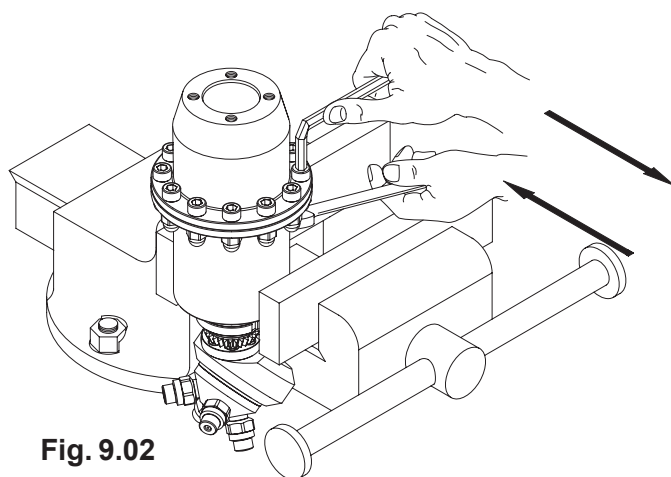

Fig. 9.02
9.2.02) Using a 5-mm Allen key and a 10-mm ring spanner, loosen the twelve screws and the twelve nuts, pos.57 and pos.58, see fig.9.02.